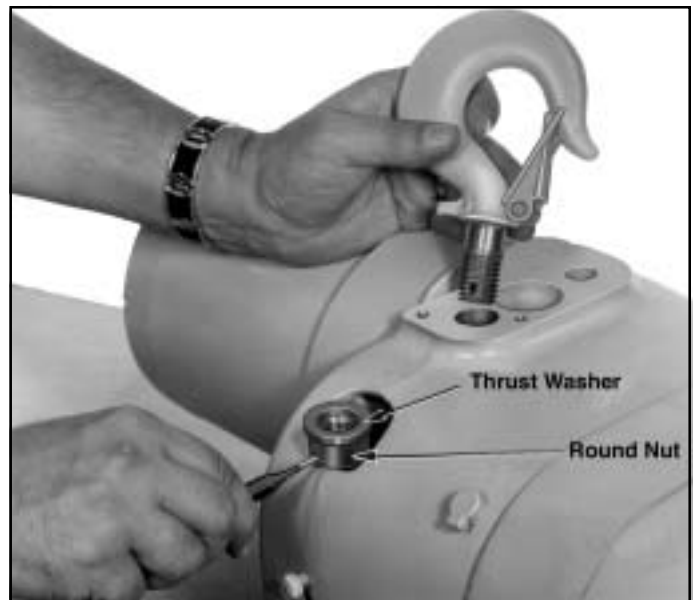

Figure 7-18. Removing Upper Hook and Hook Nut from Hoist Frame (1/4 thru 1 Ton Models)
(1) On 1 /4 thru 1 ton models, drive pin from hook nut using drift punch and unscrew upper hook. Nut is reached thru access hole in side of hoist frame. See figure 7-18.
(4) To remove connecting rod (fig. 7-2) on 3 ton hoist, drive pin from rod nut using drift punch and unscrew connecting rod. Nut is reached thru access hole in side of hoist frame. (See fig. 7-18).